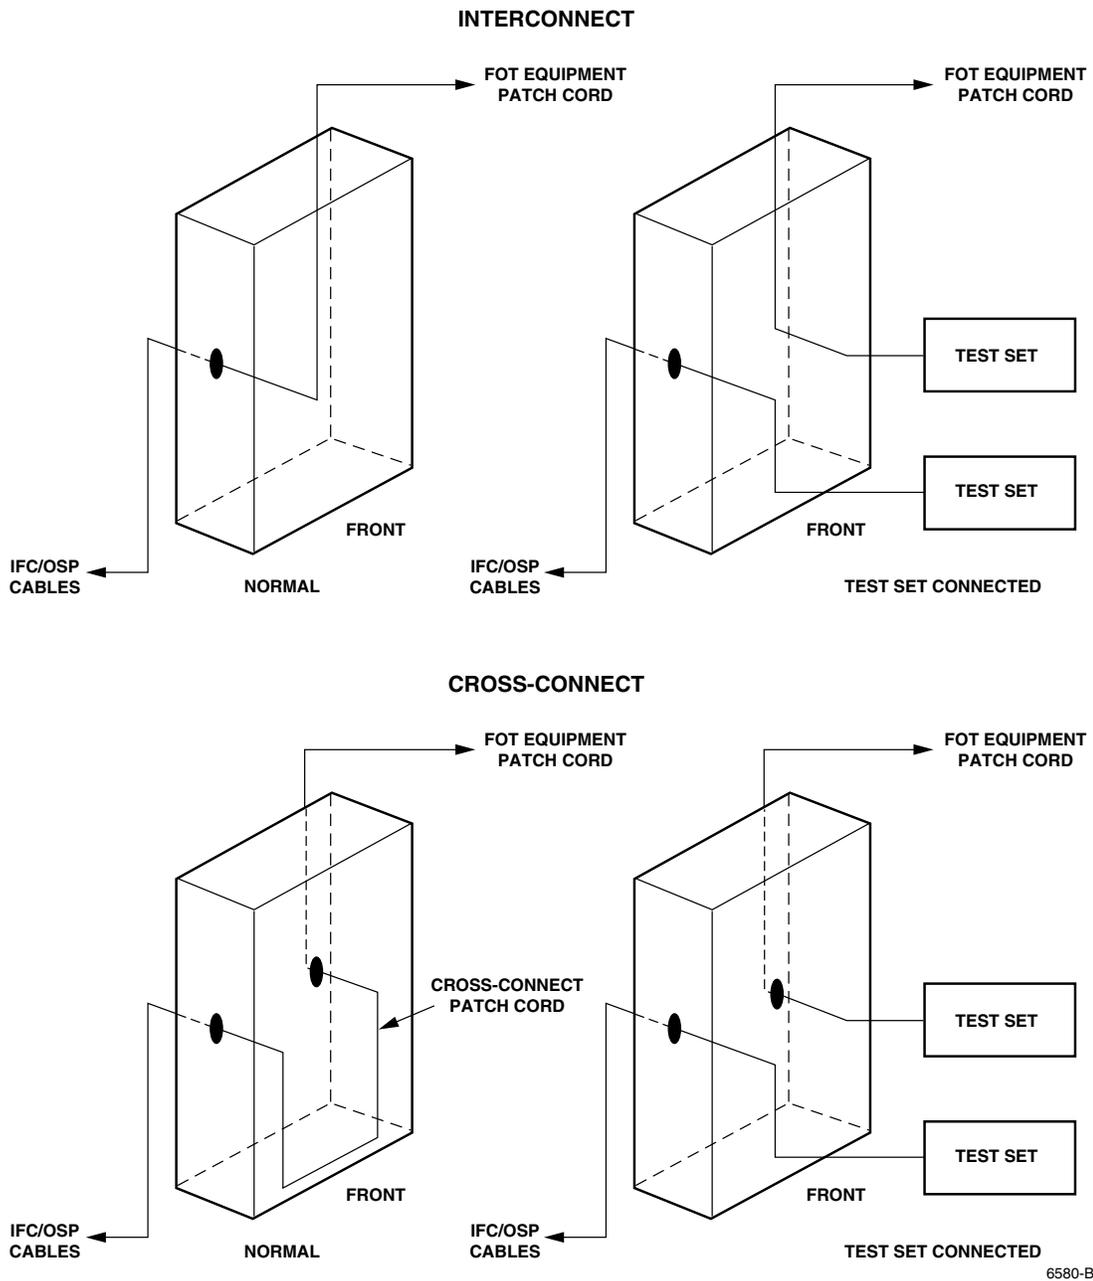

Figure 26. Series Test Access
This procedure is used to obtain series test access to the FOT equipment or IFC network cable at the NG3 frame. The appropriate test equipment may then be connected to the FOT equipment or network cable that requires testing. Separate procedures are provided for interconnect and cross-connect applications. Refer to Figure 26 for a schematic diagram of the procedure.
1. Locate the adapter that serves as the termination point for the FOT equipment or network cable that requires testing (see Figure 26).